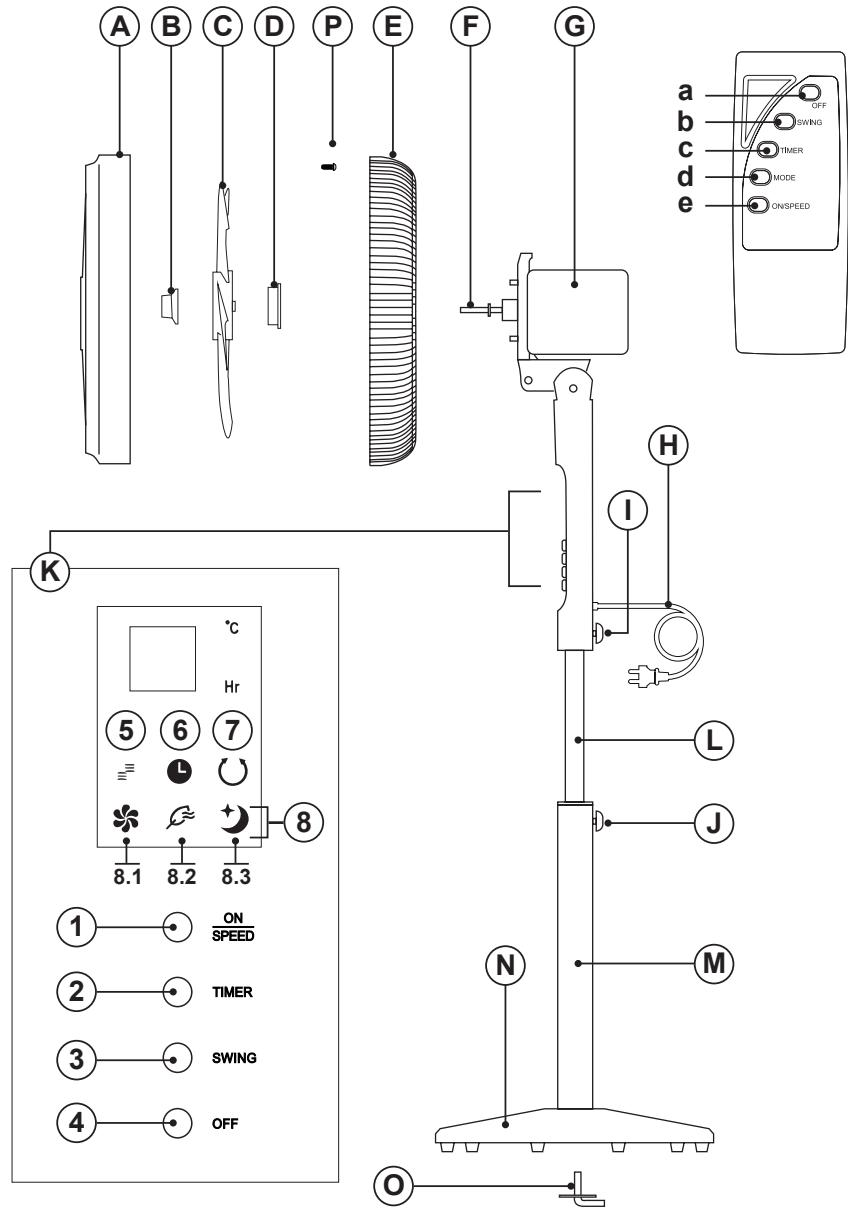

Fig. 1
- Fit the base with the base pipe and secure it with the screw provided (Fig. 1)